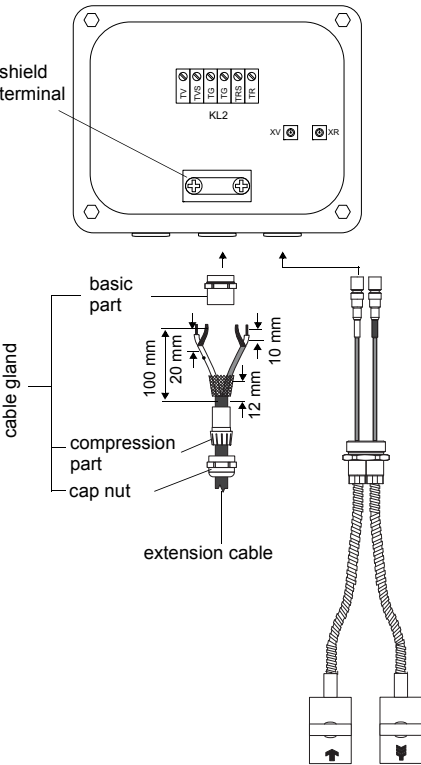
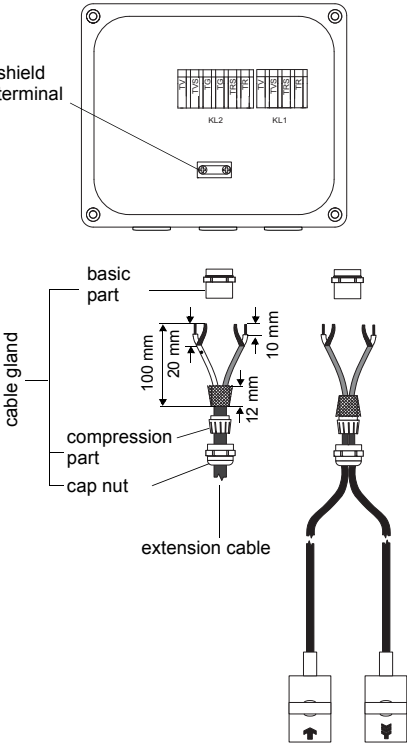

Fig. 6.2: Connection to junction box JB02, JB03
Fig. 6.3: Connection to junction box JBP2, JBP3
- Remove the blind plug from the junction box (see Fig. 6.2 or Fig. 6.3).
- Prepare the extension cable with the cable gland. Cut the external shield and brush it back (see Fig. 6.2 or Fig. 6.3.)